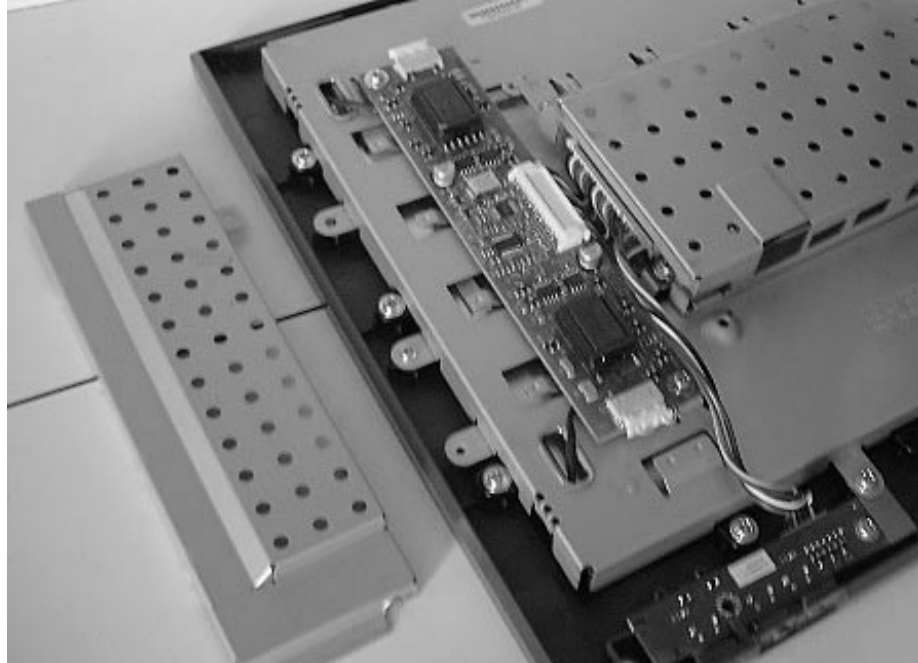

Figure 44. Removing the tablet touch card
4. See Figure 44. Lift off the backlight card EMC shield and set aside.